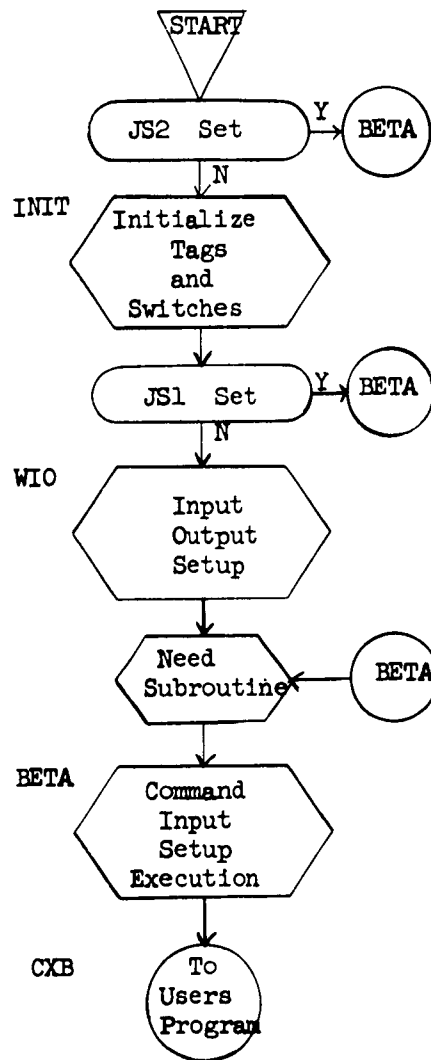

Figure 7.1 Input, Setup and Execution
7.2 Input, Setup and Execution Section (Figure 7.1)
Figure 7.1 shows the initial breakdown of this section.